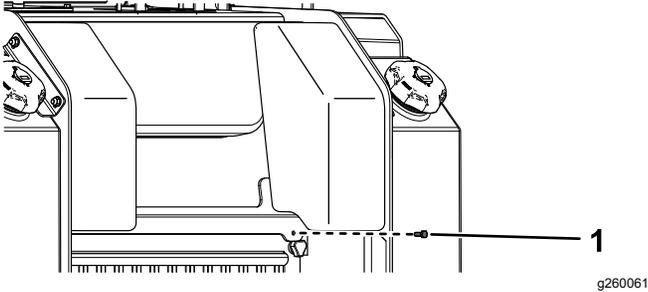

Figure 41
1. Remove the fastener (Figure 41).